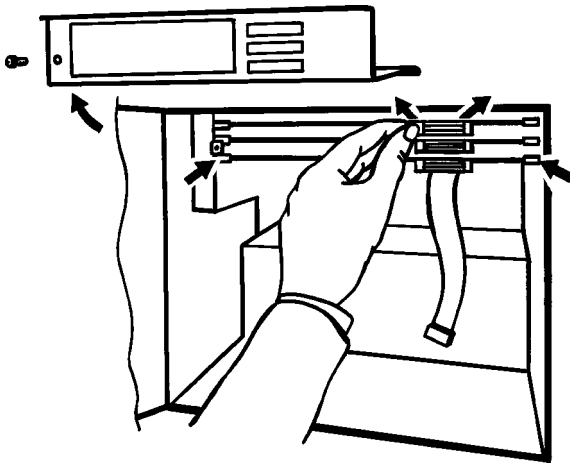

Figure 4.7.3a I/O board removal
3. Remove the I/O board retainer (figure 4.7.3a).
12. Re-fit the circuit board retainer (figure 4.7.3a).